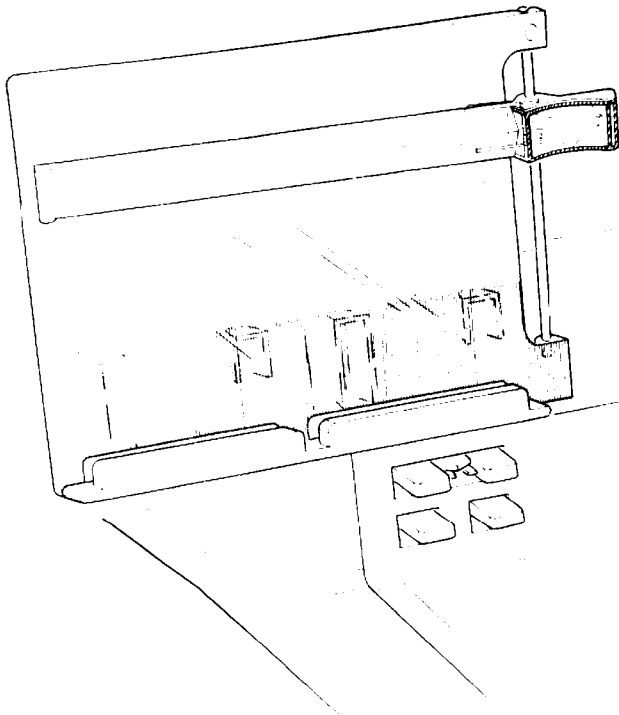

Fig. 2.5 LECTERN ON FRONT OF COVER
- 2.25 Fit the lectern to the front of the cover Fig. 2.5, making sure that the lectern is correctly fitted.
3.12 Fit the lectern to the front of the cover Fig. 2.5, ensure that the lectern is correctly fitted in the required position.